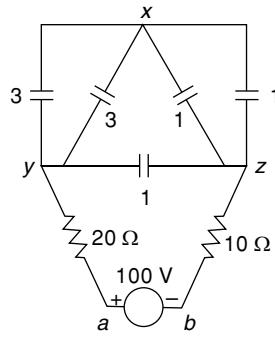
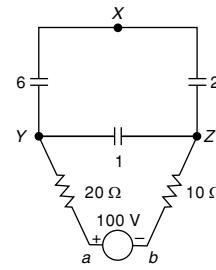
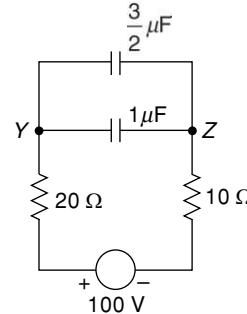

Fig. 1.42 Network of Ex. 1.34
Fig. 1.42a Reduced network of Fig. 1.42
Fig. 1.42b Final reduced network of Fig. 1.42a
1.34 In Fig. 1.42, find the p.d. between (x-y) and (x-z) in steady state. Figures shown against capacitances are in μF .
Figure 1.42a shows the reduced network where both $3 \mu\text{F}$ capacitors at the left hand side are replaced by their equivalent capacitance as well as two $1 \mu\text{F}$ capacitors at the right hand side of Fig. 1.42 are also replaced by their equivalent capacitance.
Further reduction of the network (shown in Fig. 1.42a) is possible (Fig. 1.42b).